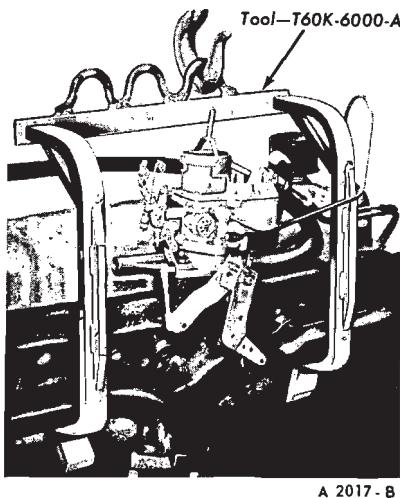
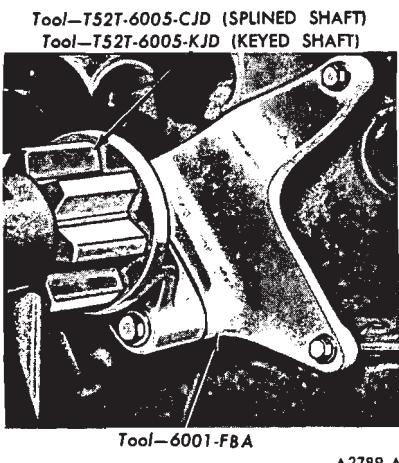

FIG. 41—Engine Lifting Hook
FIG. 42—Engine Work Stand
12. Attach the engine lifting hook (Fig. 41). Carefully lift the engine out of the engine compartment. Install the engine on a work stand (Fig. 42).